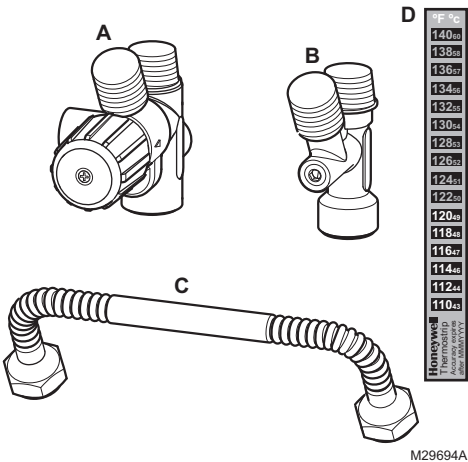

Fig. 1. Mixing valve kit contents.
### Included in this box (see Fig. 1)
8. Remove all components from the AMX300 mixing valve kit box and check that all required components are included. The required components are: AMX300 mixing valve, cold water tee, flexible metal connector, thermostrip and installation instructions (see Fig. 1).